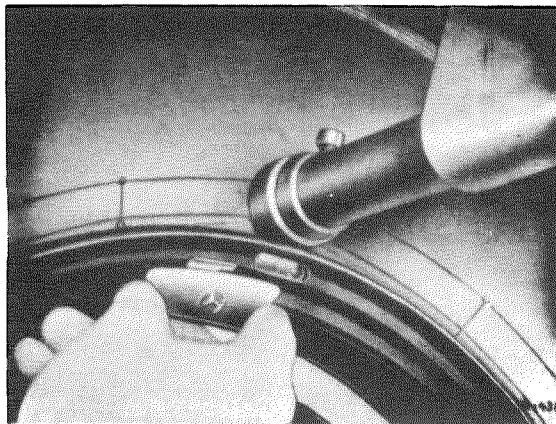

Fig. 40 — 2/2
3. After the value of the components has been established on the polar diagram, use a standard commercial tire clamp to fit the appropriate weights into the balancing slots. In doing this, use the tire clamp to press the tire off the rim and insert the sprung steel blade of the weight into the slot and lock it in position (Fig. 40 — 2/2).